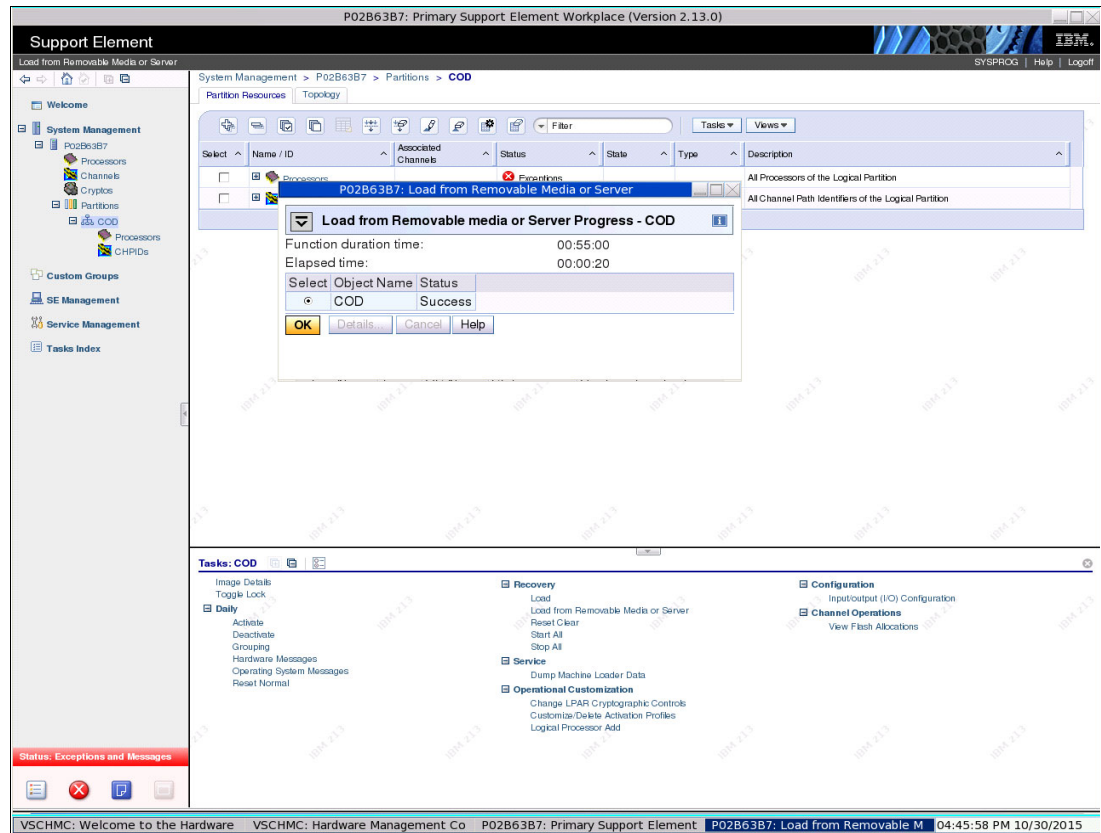

Figure 8-9 DFSMSdss Stand-Alone Services loaded
8. When DFSMSdss Stand-Alone Services is loaded on the COD LPAR, the window that is shown in Figure 8-9 opens. We click **OK** to continue.